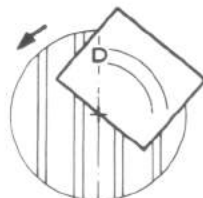

Fig 3
- (b) Mark a line on the type template holder (Fig 3), align the middle of the first letter with this reference line and engrave this letter. Then advance type templates until the middle of the next letter coincides with the mark and rotate the circular table accordingly to provide for the correct distance between letters on the work.